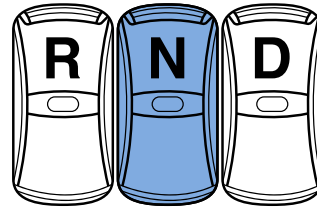

Figure 5 - Gear selector
3. Put the vehicle in neutral by pressing the top part of the "N" pushbutton of the gear selector (**Figure 5**).